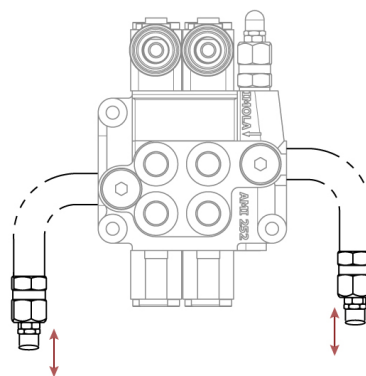

Fig. 26c
- 2) Connect the two hydraulic connections on the sides of the diverter to the tractor (Fig 26c).